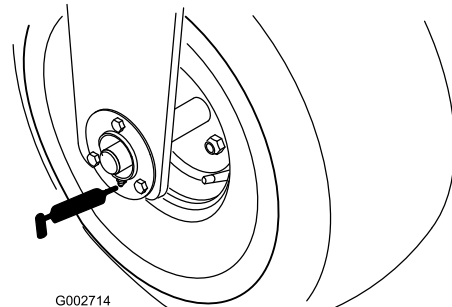

Figure 21
- Front wheel bearing (1) (Figure 21)